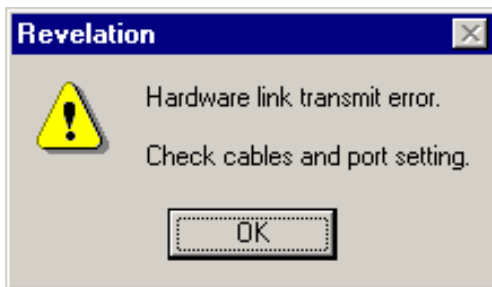

Figure A-2 Hardware Link Error Message Box
- 2 The message box shown below (Figure A-2) will be presented since the computer is not yet configured to communicate with the reader.